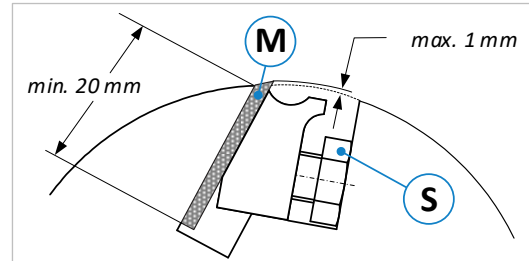
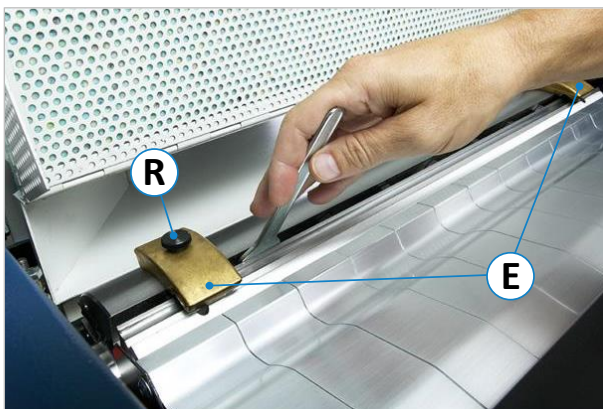

Figure 68: Traditional cutter block
Figure 69: Standard adjusting devices
- The knives (**M**) may only be sharpened to such an extent that a minimum clamping length of 20 mm can be maintained with a knife protrusion of max. 1 mm (see ⇒ Figure 68).
- Using a flat spanner SW17 (as shown in Figure 68⇒ Figure 69), loosen all the screws (**S**) in sequence and remove the blunt knives (**M**), see ⇒ Figure 68.